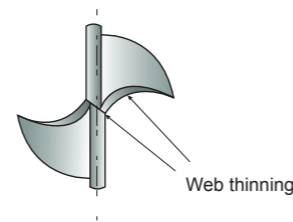

Figure 10
- ④ Grind web thinning. (figure 10)